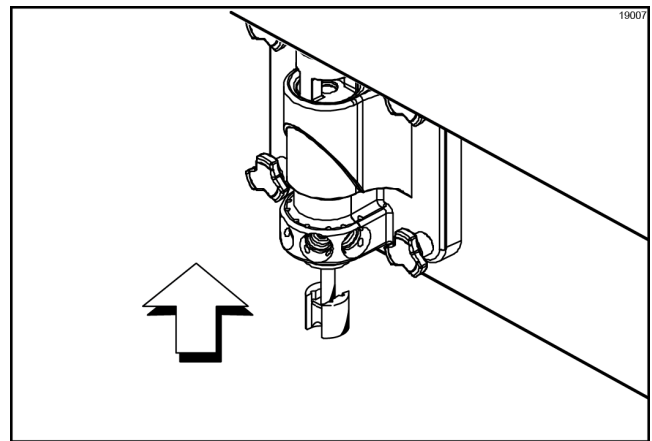

Figure-124
15. Insert the spinner blade shaft into the center of the driven spinner and through the draw valve cavity until the shaft appears at the top of the draw valve. The spinner blade must be aligned and engaged with the driven spinner at the bottom. This allows the spinner shaft to rise high enough to be engaged in the spinner coupling at the top. (See Figure-124.)